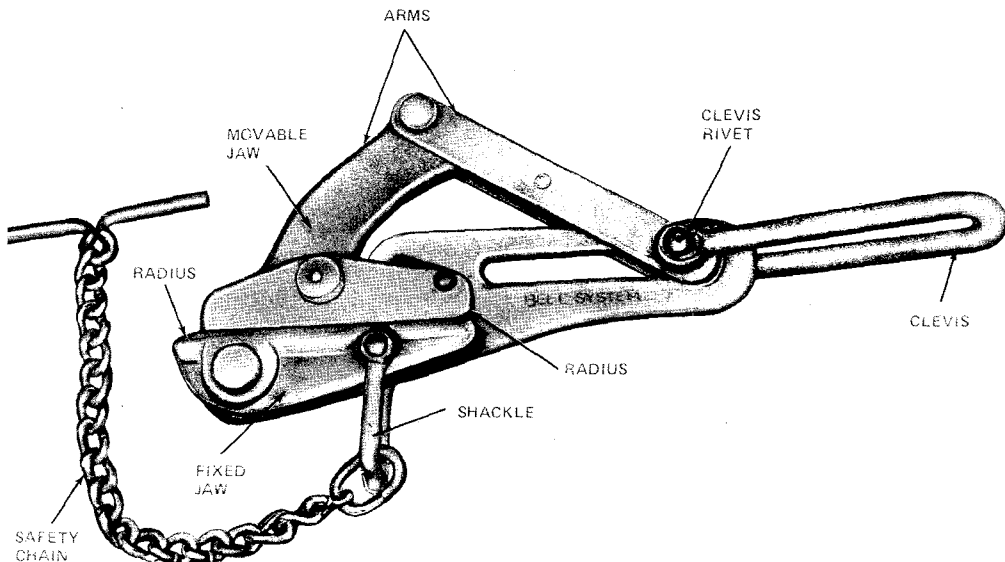

Fig. 1—Modified L Strand Puller
2.02 The modified L strand puller has a radius at opposite ends of the fixed and movable jaws and a date of manufacture of April 1978 or later (Fig. 1). It weighs approximately 6 pounds and is equipped with a single shackle which is on the fixed jaw. A safety chain is permanently attached to the shackle and is equipped with a latch at the free end. The puller may be prevented from falling, should it become disengaged, by passing the chain around the strand and attaching the chain latch to the shackle.